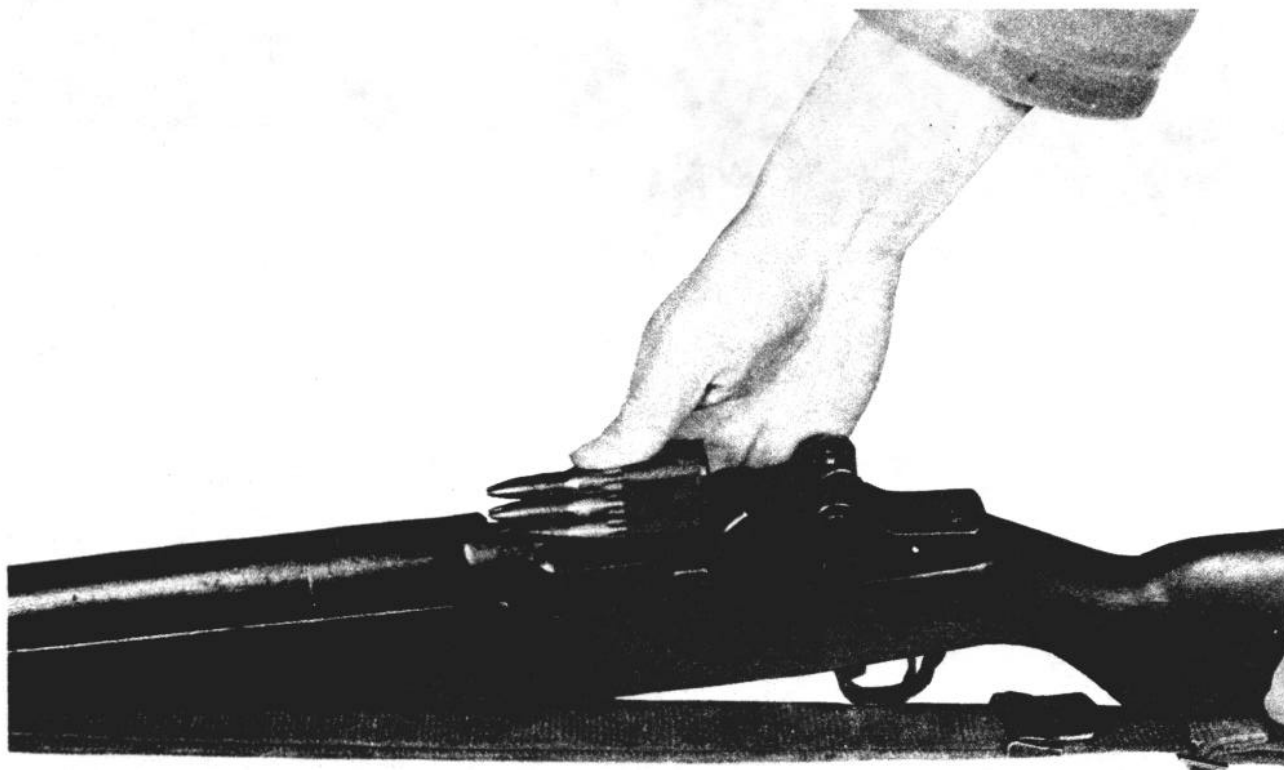

Figure 19. Loading a full clip.
b. Full clip. To load a full clip, hold the rifle at the balance with the left hand and pull the operating rod handle all the way to the rear. Place the butt of the rifle against the thigh or on the ground. With the right hand, place a full clip on top of the follower assembly. Place the thumb on the center of the top round in the clip and press the clip straight down into the receiver until it catches (fig. 19). Swing the right hand up and to the right to clear the bolt in its forward movement. Note that the operating rod is not held to the rear during loading since there is no danger of it going forward as long as pressure is main-